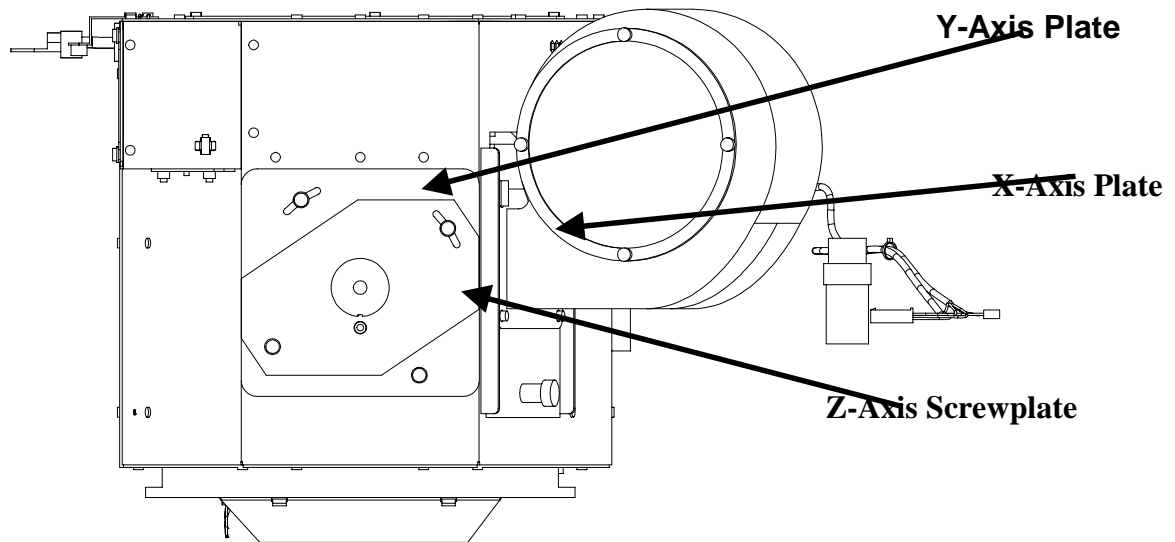

Figure 3-9. Model 340SC and 370SC Arc Lamp Adjustments
1. Use a standard Phillips screwdriver and loosen the two (2) top screws on the pivot holes (refer to Figure 3-9). Slide the plates on their pivots until the shadow looks uniform.
1. Adjust the Z-axis of the Xenon Arc Lamp using a 9/64 inch hexhead balldriver and rotate the screwhead (see Figure 3-9) for overall brightness from the center to the edges with a minimum of roll-off (roll-off is the gradual difference in brightness from the center of the screen to the edges). Only a turn or two should be required.